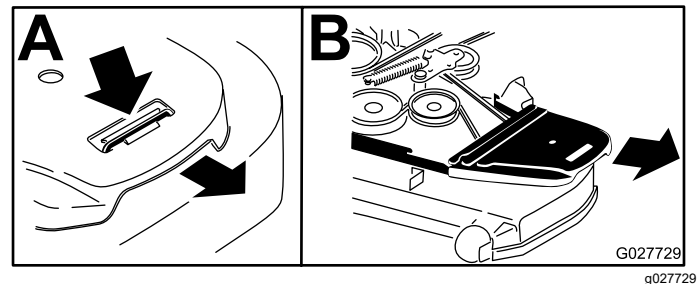

Figure 59
4. Remove the belt covers (Figure 59).